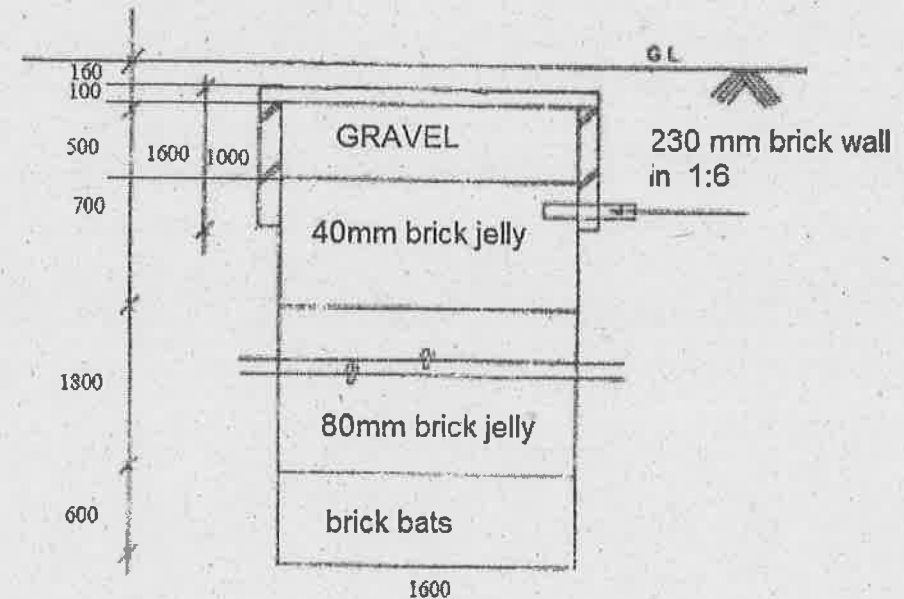

Figure Q. 16 (a)
16. (a) Prepare the detail estimate for the 'soak pit' as shown in Figure Q. 16 (a).